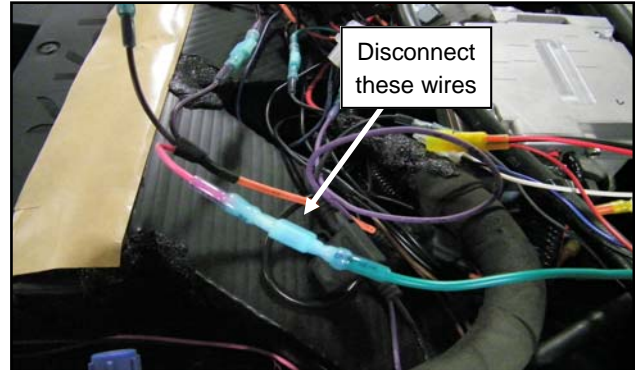

Fig. 5.2 (Disconnect Green/Pink Wire in A/C)
- 5.2 Disconnect the green wire on the controller relay from the pink wire on the A/C unit that is connected to the trigger on the main solenoid. Fig. 5.2.